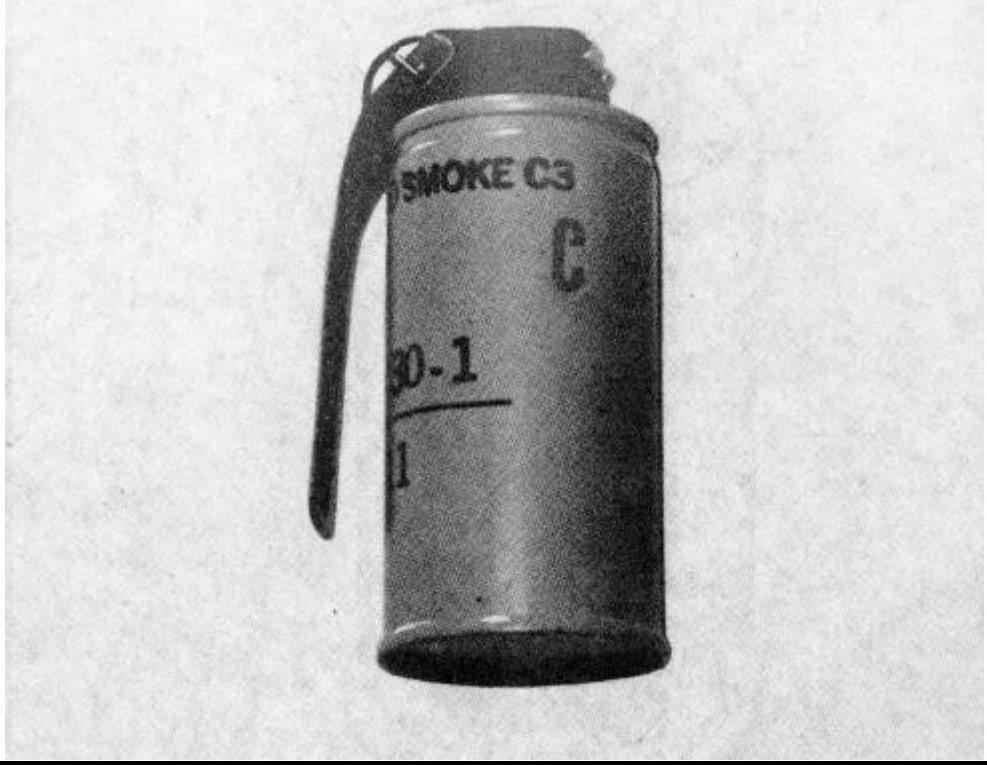

Figure 2-24    Grenade, Hand, Smoke, C3 Series
2. See Figure 2-24 and Chap 1, Annex C.